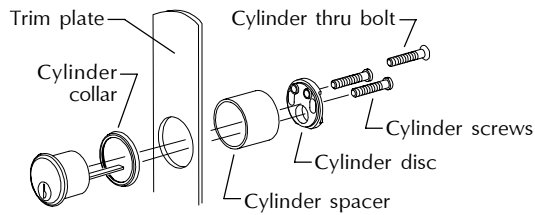

Figure 1
- A. Install cylinder (Figure 1).